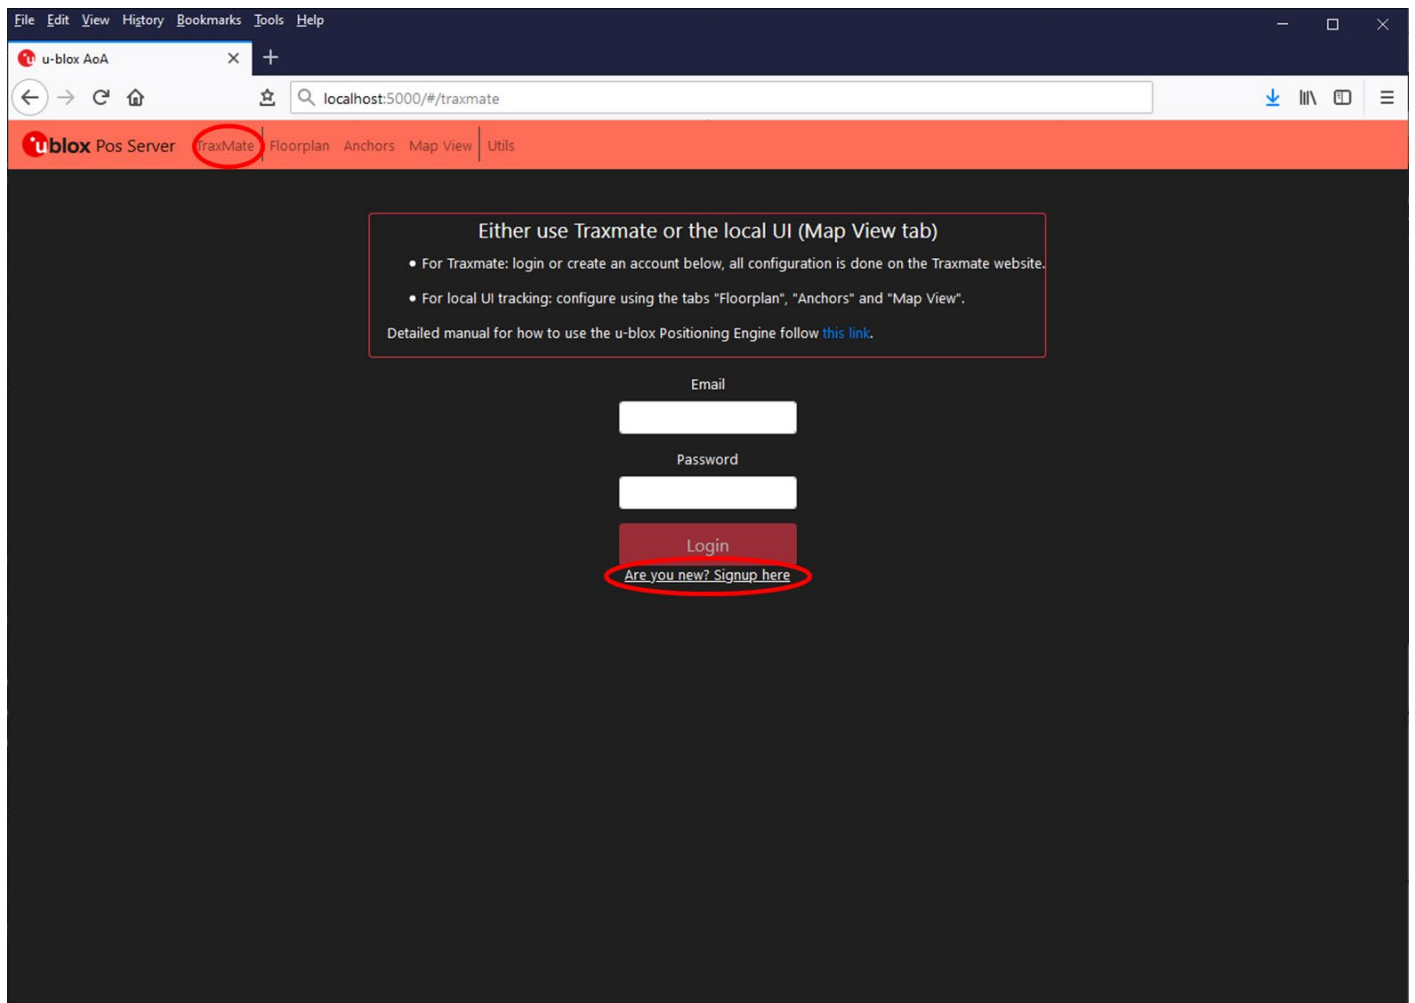

Figure 5: System start dialog
Figure 5 shows a login prompt for the Traxmate cloud, where you can sign up for a Traxmate account. This is the first dialog that is shown when starting the system. To use the cloud, log in here and follow the procedures described in Using the system with Traxmate integration.
1. Create an account in the Traxmate cloud. To get the correct account type this must be done from within the local positioning GUI. Select the Traxmate tab and then the sign-up link, as shown in Figure 5.